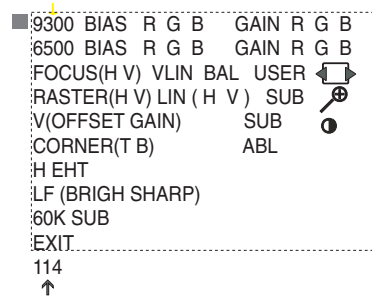

Fig. 2.2
Step 1: To press power button switch and left & right simultaneously to enter the character "FACTORY MODE" as shown in Fig.2.1, press " " to access the OSD menu for R/G/B gain & cutoff as shown in Fig. 2.2.
Step 2: Press " " for function selection as shown in Fig. 2.2.